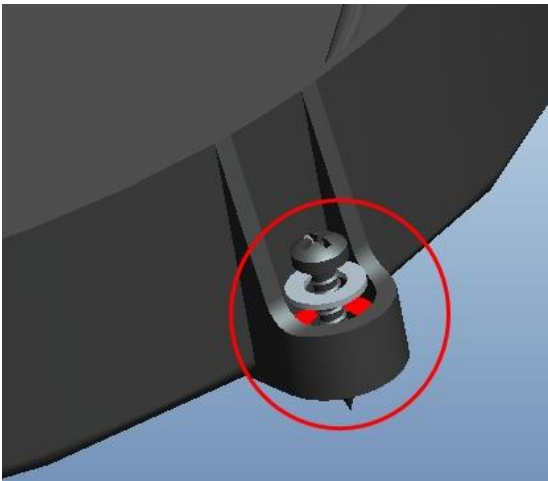

Figure 7: Mounting Lug
- Position the **K-Able/XL Box** relative to the edge of the table and secure it using the three wood screws and washers supplied. The screws and washers are inserted into the mounting lugs as shown in Figure 7.